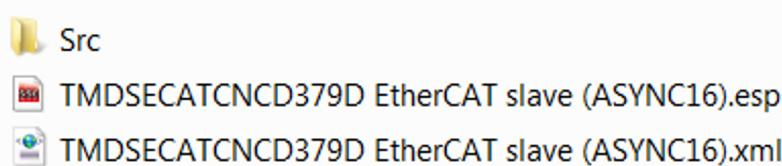

Figure 17. Slave Directory
10. Inspect the directory in which the files were created (see Figure 17).